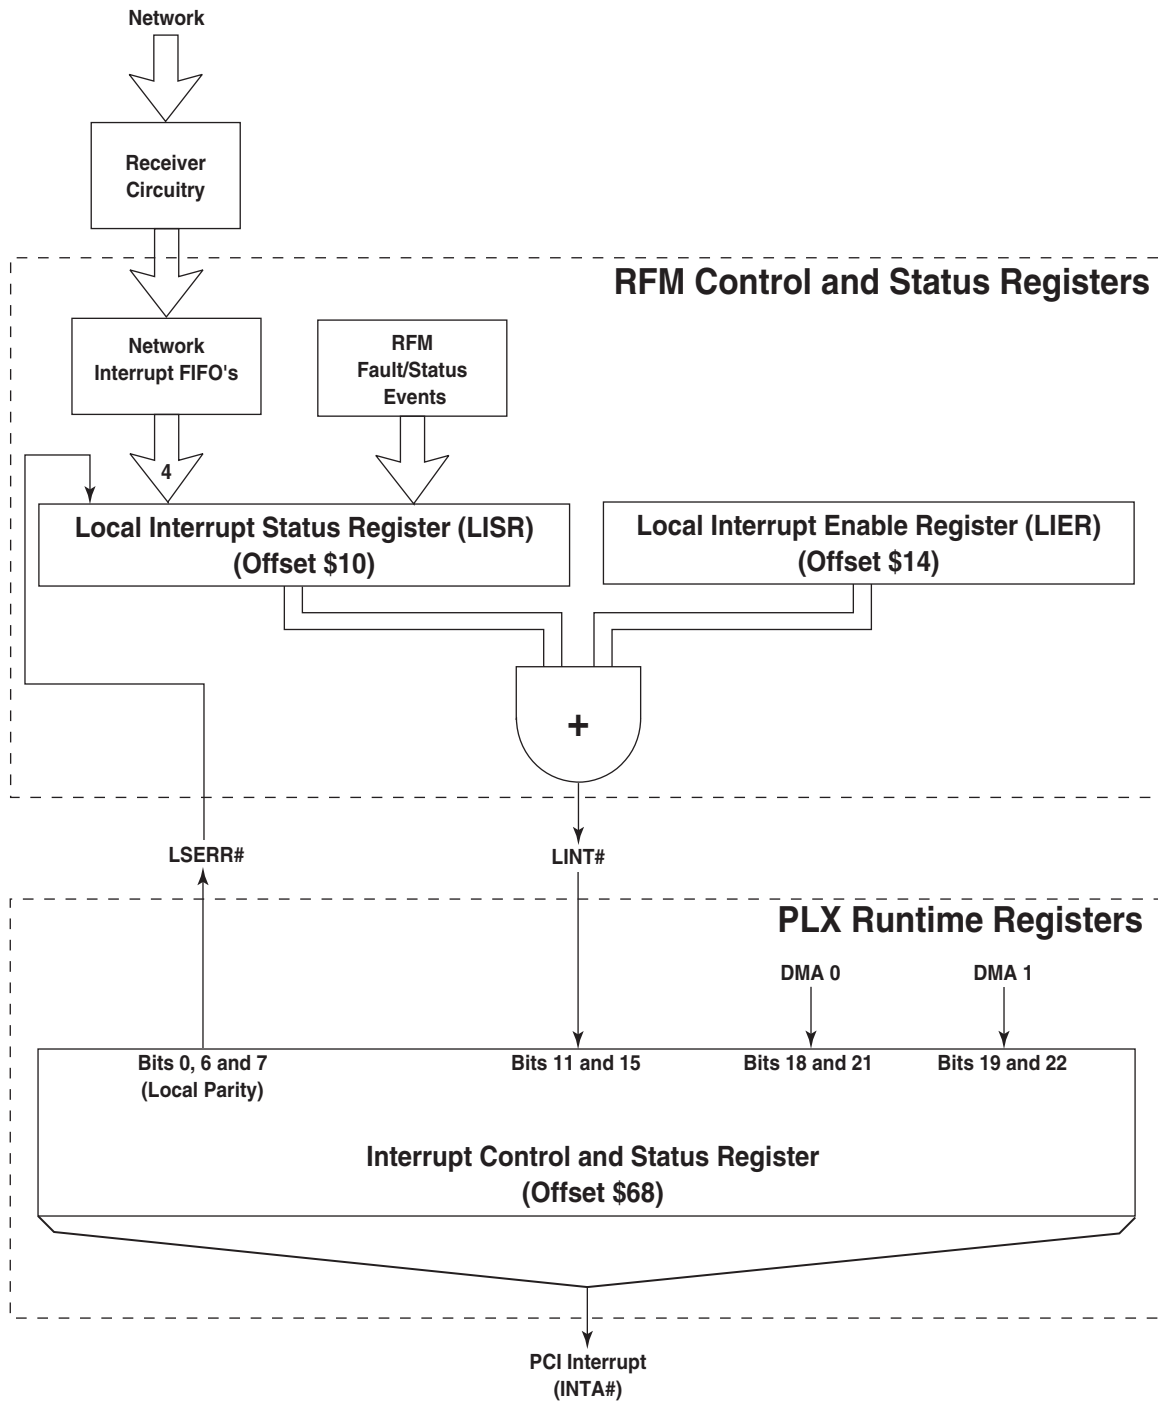

Figure 1-1 VMIPCI-5565 Interrupt Circuitry Block Diagram
The final first tier interrupt source (7) is the Local Interrupt Input (LINTi#). The LINTi# signal is an actual physical input to the PLX device and is significant due to the fact that all secondary tier interrupts are funneled through the LINTi#. Second tier interrupts include several operational faults and four network interrupts. The second tier interrupts are selected and monitored through the two RFM Control and Status Registers referred to as the Local Interrupt Status Register (LISR) and the LIER. For a detailed description of the two registers refer to the *Programming* section. A block diagram of the main interrupt circuitry is shown in Figure 1-1 on page 26.